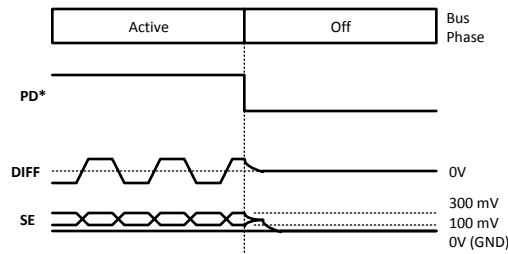

Figure 9. MPL-2 - LM4312 Link Off Timing
(6) Guaranteed functionally by the  $I_{DDZ}$  parameter. See also Figure 9.
(7) This is the minimum time that the PCLK needs to be held off for in order for the device to be reset. Once PCLK is reapplied, a PLL Lock is required and start up sequence before video data is serialized.
In the Serial Bus OFF phase, SER differential outputs are all driven to Ground. Figure 9 shows the transition of the MPL-2 bus into the OFF phase.